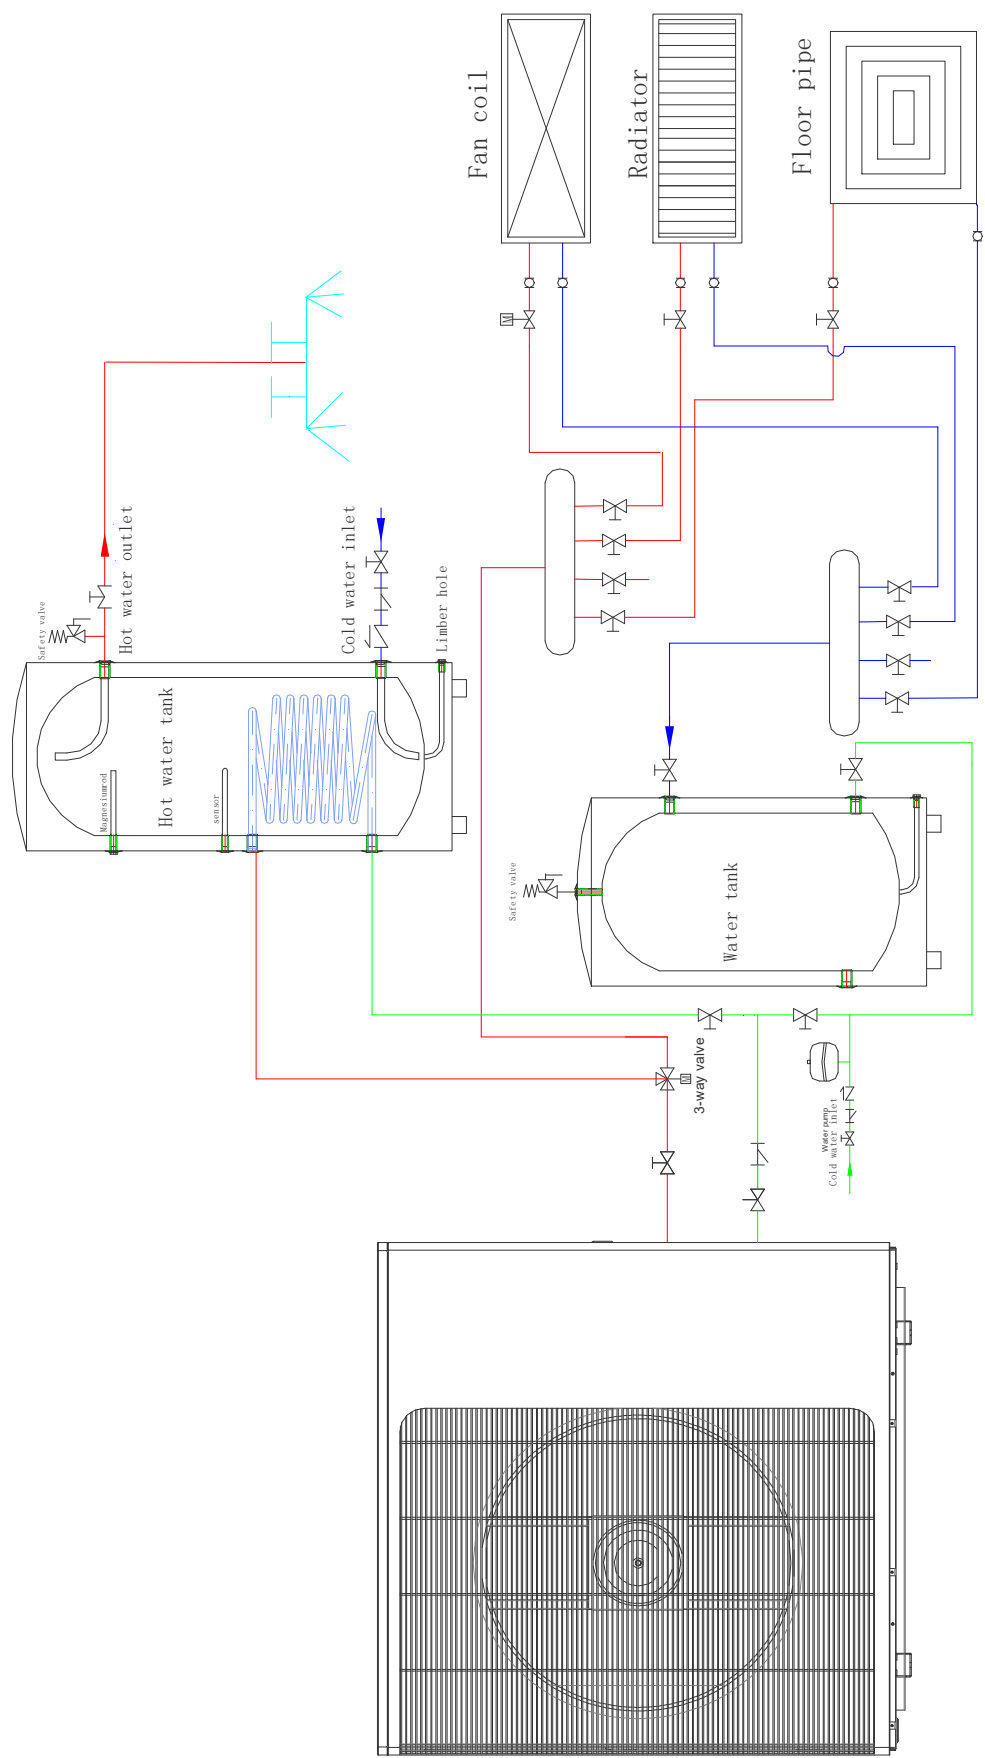

Figure 3
- 1) System installation diagram to see Figure 2, Figure 3.